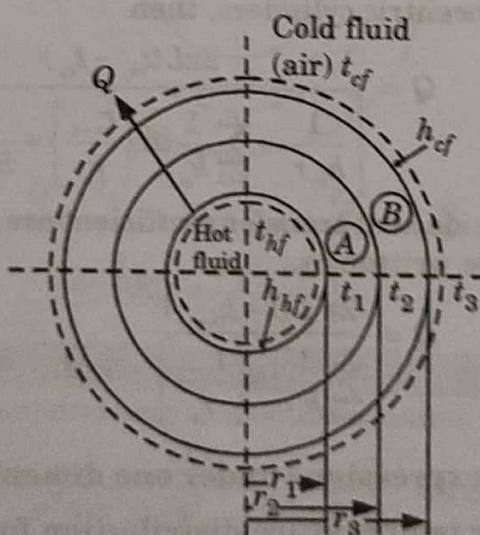

Fig. 1.13.1.
- Consider heat flows radially through a composite cylinder as shown in Fig. 1.13.1.